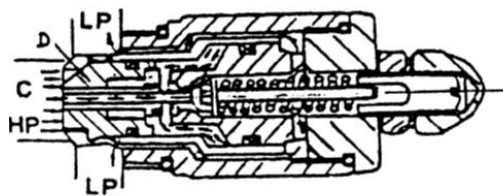

Fig.6.7
(3) Once the precursor valve core E is open, the back pressure of the core C will be reduced, so the core C will be shift to the right direction, then be on the core E. As a result, the back oil route of the core D will be cut off, the inside pressure will be also reduced. (See Fig.6.7)